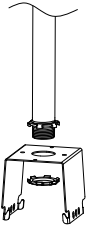

Figure2
Step 1: Mount the bracket on 3/4" NPT (figure 2)